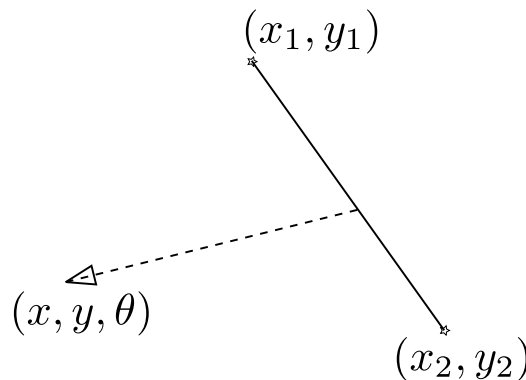

Figure 4: Distance to a segment defined by two points.
2. Compute the distance to the nearest wall. In the environment variable, the walls are defined by a list of points available in `envir.walls`. Figure 4 shows a configuration where the sensor is at (x, y, θ) and is facing a wall defined by (x_1, y_1) and (x_2, y_2) . In this case, the distance to the wall is: